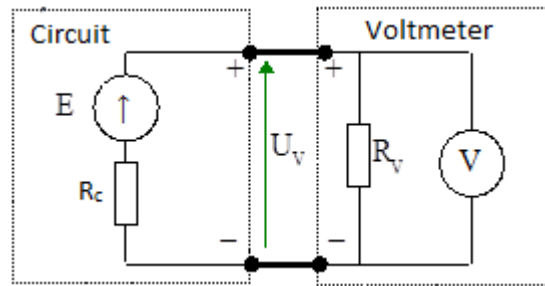

Fig. 2. An equivalent circuit for direct voltage measurement with components influencing the measurement.
Using the Thevenin equivalent for the tested circuit and the equivalent circuit of a real voltmeter, a more detailed circuit (Fig. 2.), consisting of ideal components presenting the measured value ( $U_x$ ), a meter (V) and parameters influencing measurement ( $R_c$  – internal or equivalent circuit resistance and  $R_v$  – internal voltmeter resistance), can be obtained.